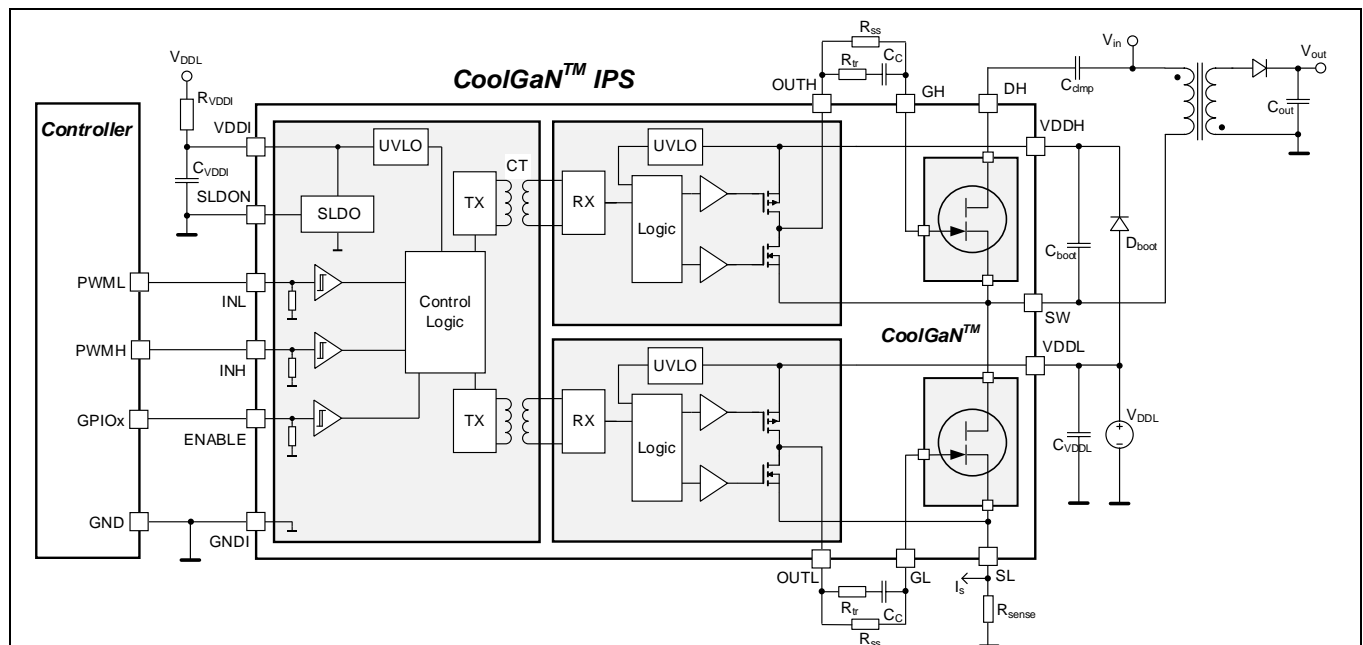
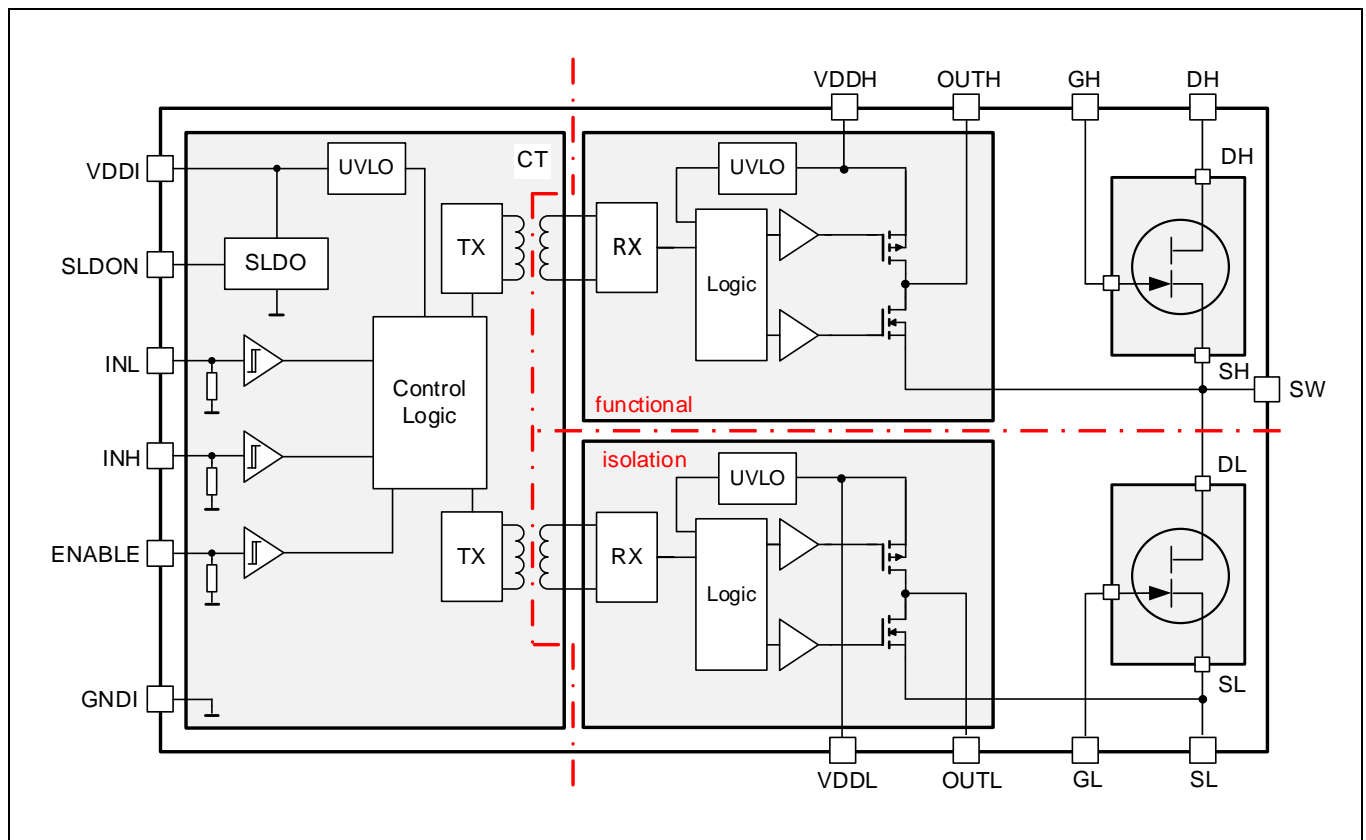

Figure 1 Typical application circuit (active clamp flyback converter)
Figure 3 Block Diagram IGI60F1414A1L
IGI60F1414A1L combines a half-bridge power stage consisting of two 140 mΩ (typ. R_{dson}) / 600 V enhancement-mode CoolGaN™ switches with dedicated gate drivers in a small 8 x 8 mm QFN-28 package. In the low-to-medium power area (example application in Figure 1) it is thus ideally suited to support the design of high-density AC/DC chargers and adapters, utilizing the superior switching behavior of CoolGaN™ power switches.
A simplified functional block diagram of the CoolGaN™ Power Stage is given in **Figure 3**. For the level-shifting function of the input signal to the high-side switch an on-chip coreless transformer (CT) is utilized. For symmetry reasons a CT is also included in the low-side path, resulting in both a galvanic input-to-output and high-to-low-side isolation. In addition, this CT separates the low-side gate driver reference (SL) from GNDI allowing to use a shunt resistor for current sensing as shown in **Figure 1**.
If no separate 3.3 V supply is available, the input side can also be operated with V_{DDL} (typically 8 V). Then the shunt LDO voltage regulator (SLDO) has to be enabled by connecting pin SLDON (pin#23) to GNDI. The SLDO regulates the current through an external resistor R_{VDDI} connected between V_{DDL} and pin V_{DDI} as depicted in Figure 1 to generate the required voltage drop. For proper operation it has to be ensured that the current through R_{VDDI} always exceeds the maximum supply current I_{VDDI} of the input chip. R_{VDDI} thus has to fulfil:
Both output dies have to be supplied by a voltage of typically 8 V related to the source of the respective GaN switch. In many applications the floating high-side supply V_{DDH} can be generated from the ground-related V_{DDL} by means of bootstrapping (components D_{boot} , C_{boot} and R_{boot} in Figure 1). A ceramic bypass capacitance C_{VDDL} of typically 100 nF has to be placed close to pin V_{DDL} .